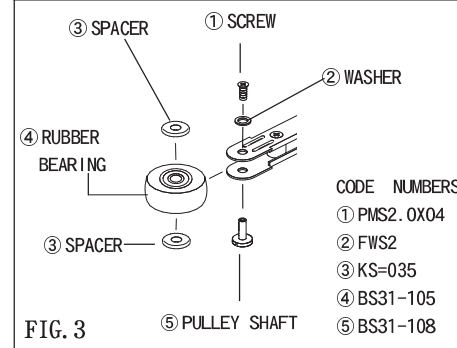

FIG. 3
FINALLY, INSERT THE PULLEY SHAFT FROM THE BOTTOM AND TIGHTEN THE SCREW ① WITH THE WASHER ②. (SEE FIG. 3)